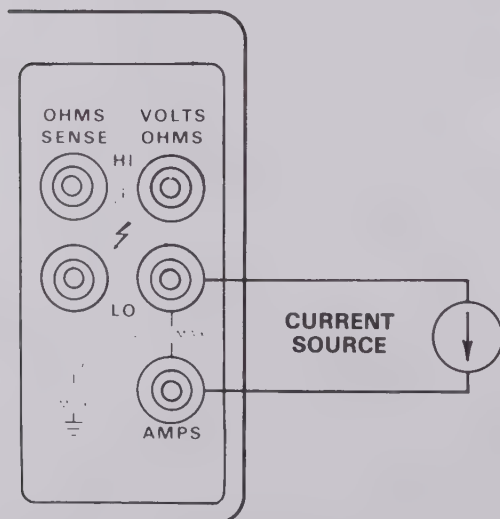

Figure 2-12. DC and AC Current Measurement (Front Panel Connections Shown)
6. Connect the Model 195A to the current source as shown in Figure 2-12.